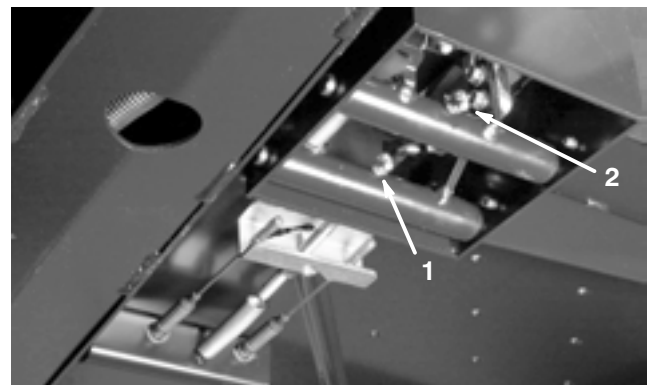

Figure 5
3. The throttle and brake pedal pivots each have one grease fitting. **Note:** These fittings are not greased at the factory. Grease them only when and if the pedals begin to stick (Fig. 5).